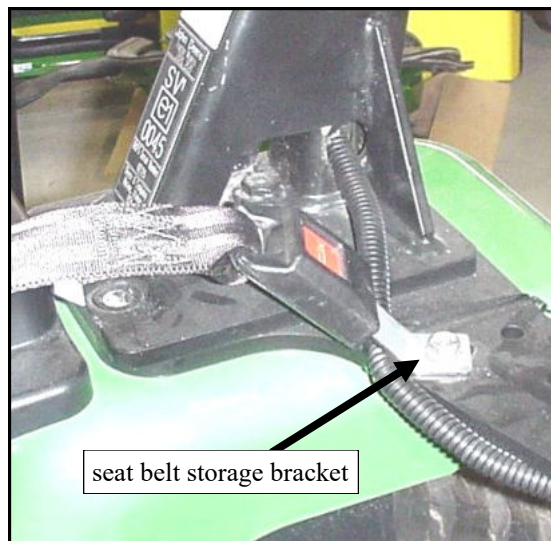

Fig. 1.4 View from left side of vehicle
1.4 Adjust the orientation of the two seat belt brackets if they are not set at approximately 45 degrees already. See fig. 1.4. Two-fold reasoning: 1) for clearance for hard sided rear panel to sit properly, 2) the clearance slits in the Behind Seat Filler (black rubber piece) are predetermined to be approximately 45 degrees. To adjust the orientation, simply put a wrench on the head of the bolt and turn the entire bolted assembly a few degrees. No need to loosen the locknut underneath the fender.